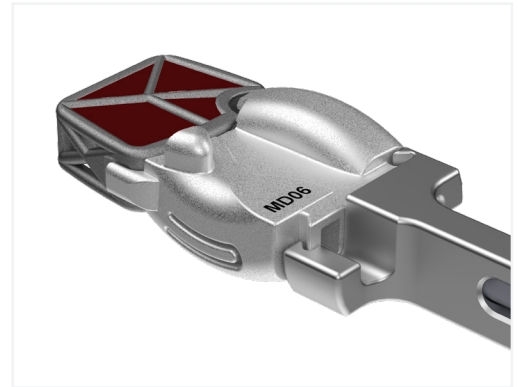

Figure 8
- ▲ Pack the implant with autologous and/or allogenic bone graft. For best results, cut or morselize the bone graft into 1–2mm sized particles. Place the morselized bone into the top or bottom web structure (top and bottom are interchangeable). In a downward, circular motion, massage the graft particles into the implant (Fig. 8).